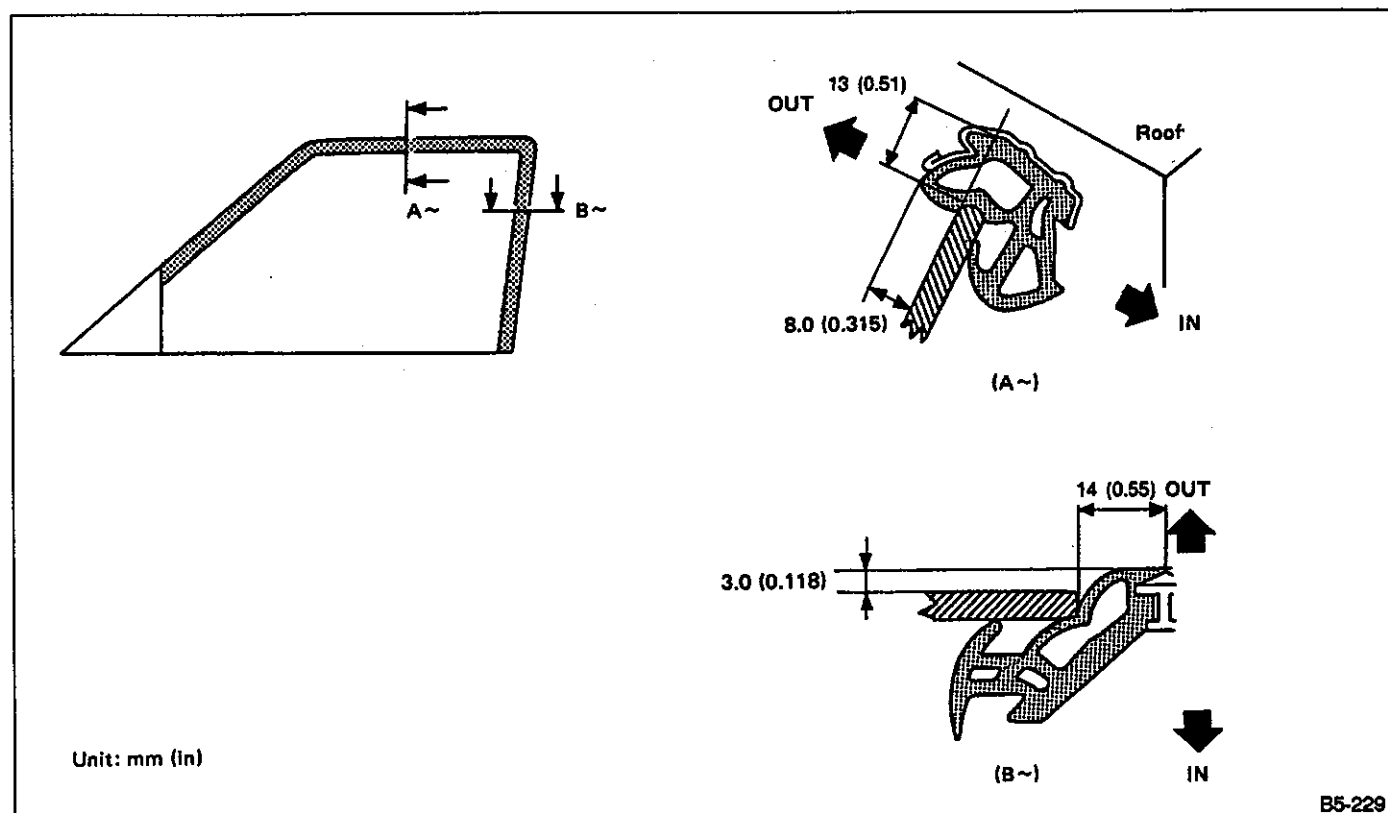

Fig. 75
- b. After clearance adjustment, make sure that bolts are tightened (shown in figure 75).